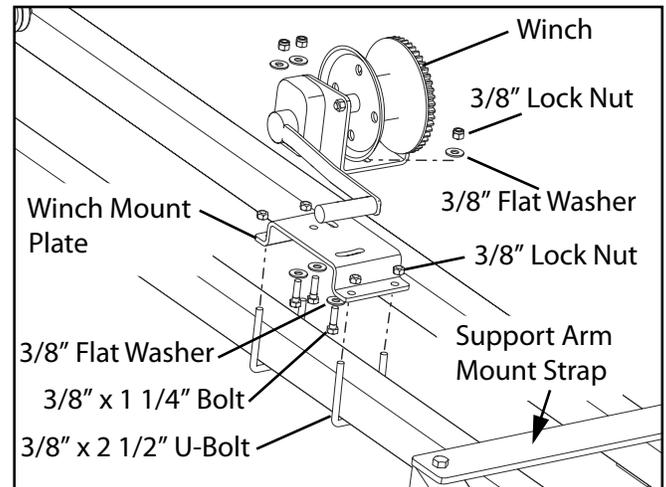

FIG. 3-22. Installing the Winch
1. Attach the Winch Mount Plate to the Axle Frame approximately 12" above the support arm mount strap using two 3/8" x 2 1/2" sq. U-Bolts and four lock nuts. See Fig. 3-22.
2. Mount the winch to the Mount Plate as shown in Fig. 3-22. The handle should be on the right side of the axle frame when standing at the intake end of the auger and looking towards the discharge end. Use three 3/8" x 1 1/4" bolts, six flat washers and three lock nuts.